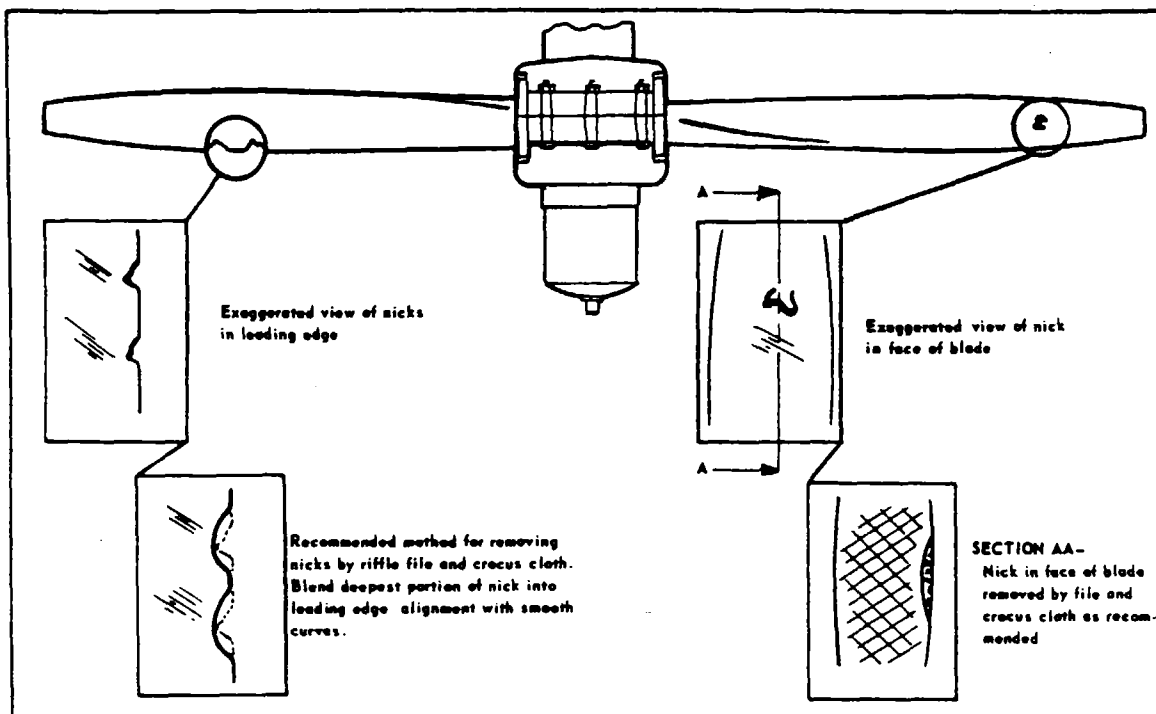

Figure 8-2. Propeller Blade Minor Repair
- g. Inspect blades for damage or cracks. Nicks in leading edges of blades should be filed out and all edges rounded, as cracks sometimes start from such places. Use fine emery cloth for finishing. Refer to Figure 8-2 for propeller blade care.